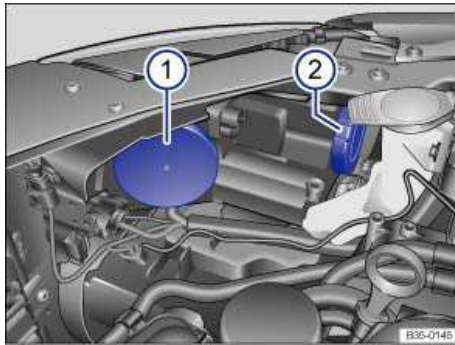

Fig. 200 In the engine compartment: Cover for cornering light, day-time running light, parking light and turn signal 1, HID headlights 2.
| 3. | Pull the rubber cover on the rear side of the headlight to the side ⇒ fig. 200 (1) . |
| 8. | Install the rubber cover ⇒ fig. 200 (1). |
| 9. | Install the rubber cover ⇒ fig. 200 (1). |
8. Install the rubber cover ⇒ fig. 200 \(1\).